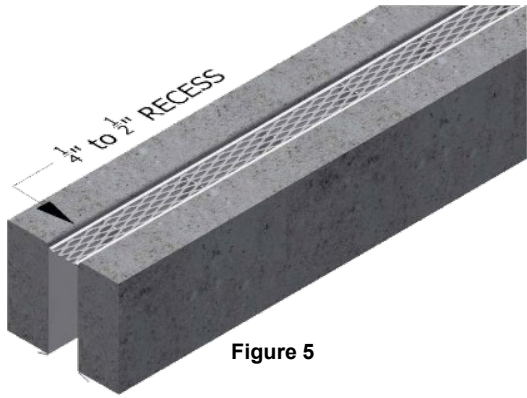

Figure 5
- Backfill any remaining part of the trench to final grade (Figure 5)